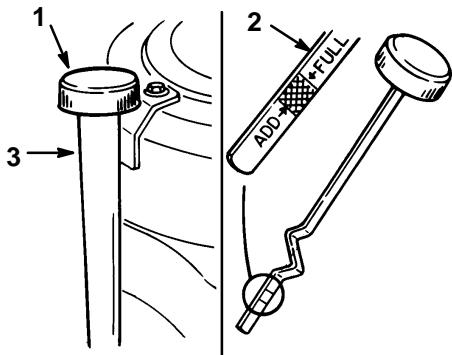

Figure 20
2. Clean around the oil dipstick (Fig. 20) so dirt cannot fall into the filler hole and damage the engine.
3. Unscrew the oil dipstick and wipe the metal end clean (Fig. 20).
4. Slide the oil dipstick fully into the filler tube, do not thread onto tube (Fig. 20). Pull the dipstick out and look at the metal end. If oil level is low, slowly pour only enough oil into the filler tube to raise the level to the "FULL" mark.
5. Slowly pour approximately 80% of the specified amount of oil specified, page 23, into the filler tube (Fig. 20). Now check the oil level; refer to Checking Oil Level, page 24. Slowly add additional oil to bring to "FULL" mark on dipstick.